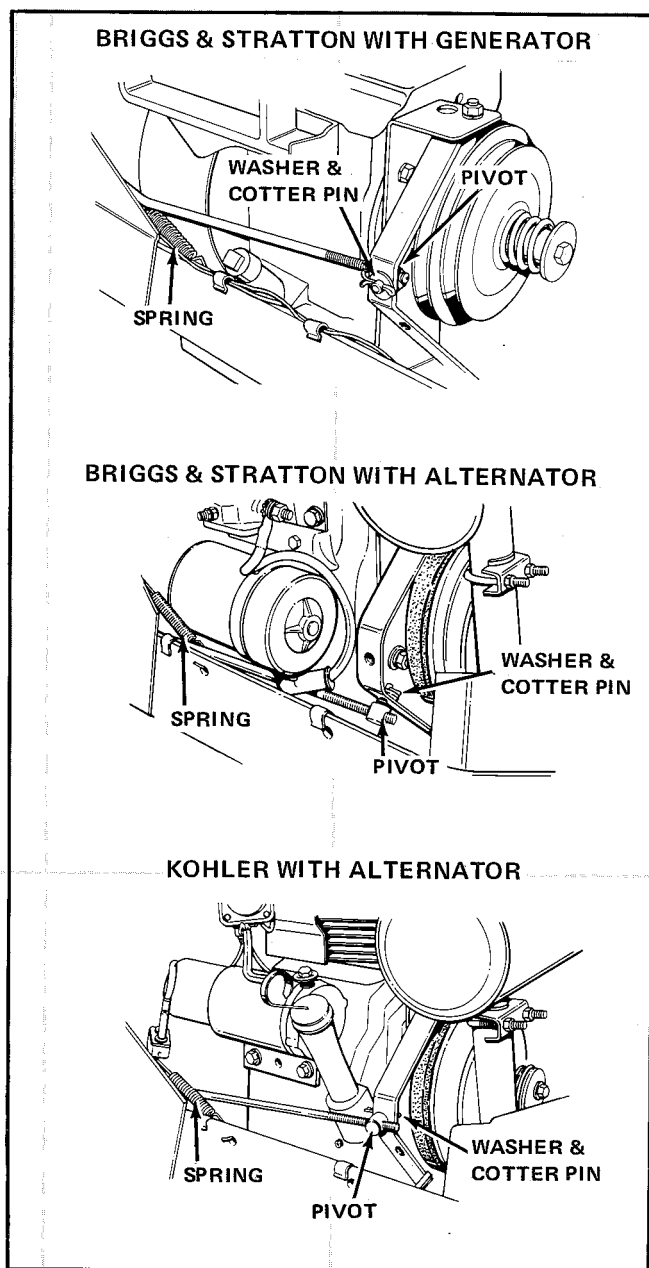

Figure 24. Connecting Clutch Rod Pivot
2. Remove cotter pin (item E) and flat washer (item D). Pivot (item C) may be on inside or outside of fork (item B) depending on your model (see figure 24).
20. Thread the pivot (see figure 24) onto front of clutch rod until it is even with holes in clutch fork.
For Briggs & Stratton engines with a generator, install the pivot from the inside through the upper hole of the clutch fork (figure 24). Secure pivot with a washer and cotter pin, and spread cotter pin legs.
For Briggs & Stratton engines with the dual circuit alternator, install the pivot from the outside through the lower hole of the clutch fork (figure 24). Secure pivot with a washer and cotter pin, and spread cotter pin legs.
For Kohler engines with the alternator, install the pivot from the outside through the upper hole of the clutch fork (figure 24). Secure pivot with a washer and cotter pin, and spread cotter pin legs.
22. Connect one end of the spring (see figure 24) to hole in clutch rod and the other end to the hole in the tractor frame.